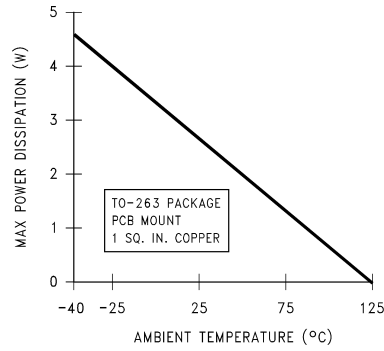

Figure 14. Maximum power dissipation vs ambient temperature for DPAK/TO-263 package
**Figure 14** shows the maximum allowable power dissipation for DDPAK/TO-263 packages for different ambient temperatures, assuming  $\theta_{JA}$  is 35°C/W and the maximum junction temperature is 125°C.